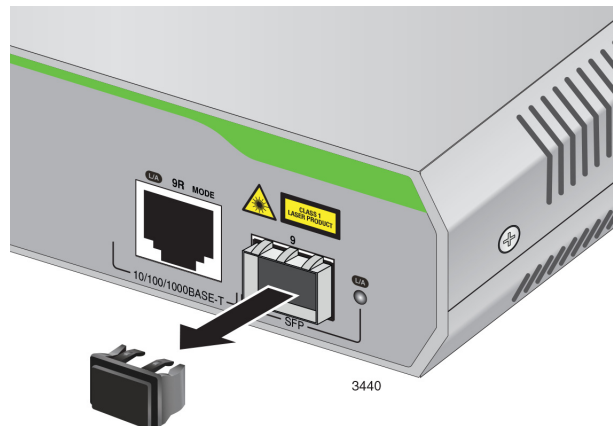

Figure 14. Removing the Dust Plug from an SFP Slot
2. Remove the dust plug from an SFP slot. See Figure 14.